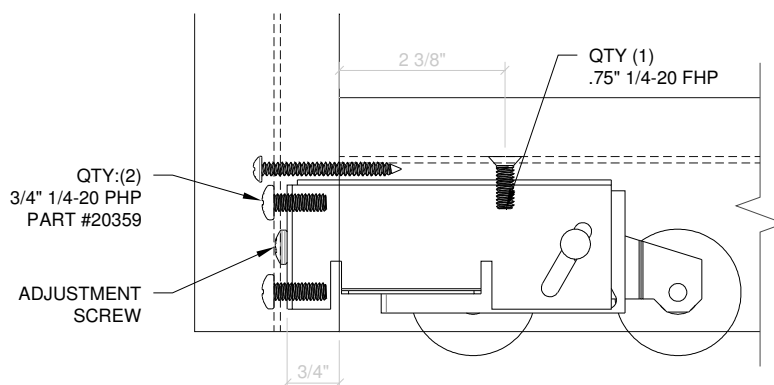

Figure 2:
1. Adjust the roller assemblies (2 required per "X" panel) to the full up right position using the adjustment screw, Figure 2.